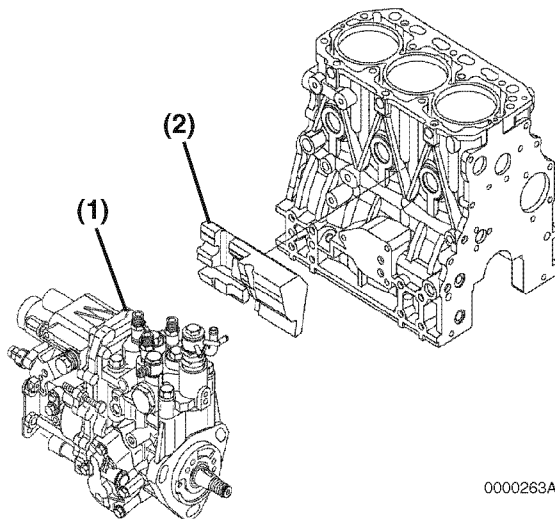

Figure 7-34
12. If equipped, verify the fuel injection pump insulator (Figure 7-34, (2)) is not damaged. Reinstall the insulator and intake manifold if previously removed.